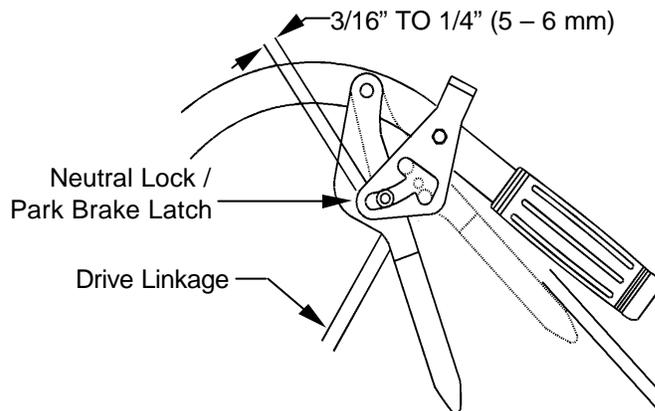

FIGURE 10
- c) Adjust drive linkage length by threading into or out of the swivel until there is a $\frac{3}{16}$ " to $\frac{1}{4}$ " (5 – 6 mm) clearance between the linkage assembly and the bottom of the slot in the neutral lock/park brake latch (See Figure 10).